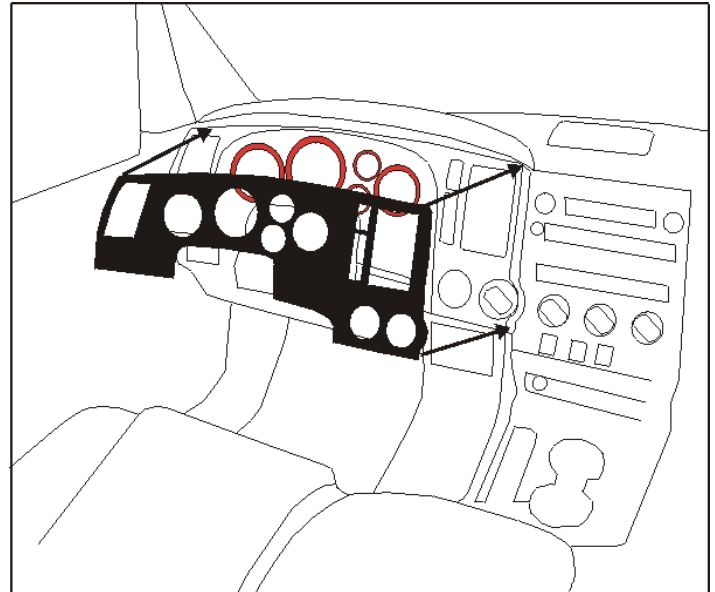

Fig. 3-1
- ⚠ (1) Align part uniformly to edge of factory component. Insert the console trim through the speedo holes, highlighted in red. Continue from the center of the IP, in an outward direction, adhering the rest of the IP applique. Use care when aligning the buttons and outer edge for proper alignment. (Fig. 3-1)
- (2) Gently touch part into position.